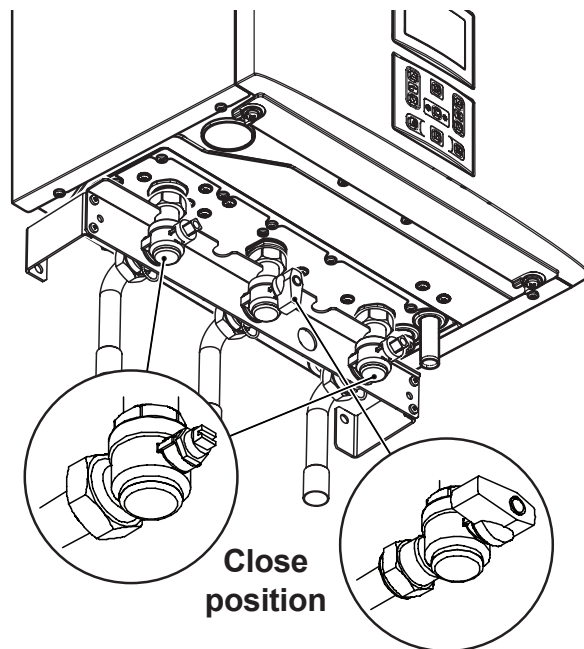

Fig. 2.19
- Shut off the gas supply cock and the valves for the water circuits fitted under the boiler Fig. 2.19.